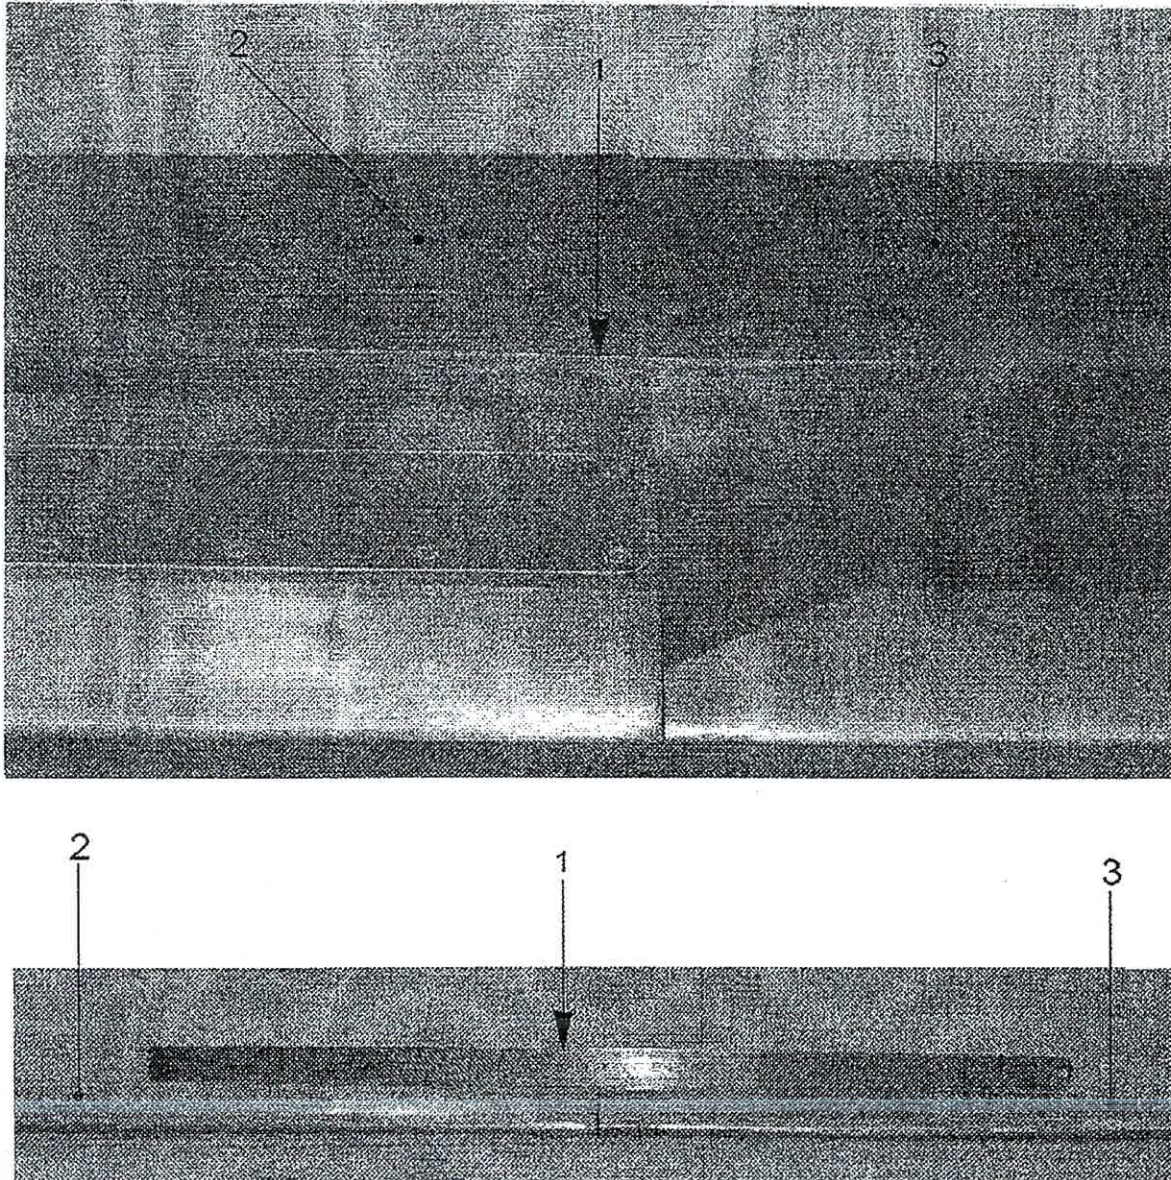
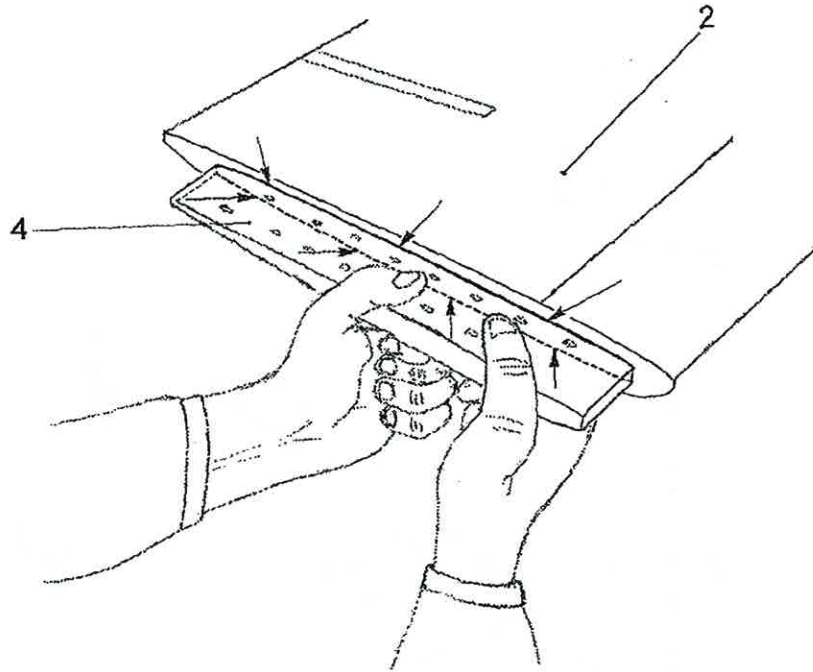

Figure 4
Figure 5
- On the blade pressure face, then on the blade suction face, closely inspect the embedded portion of tenon (4), shown on Figure 5, (use a magnifying glass if necessary):
- a) if there is no crack in tenon (4),
3. on the blade suction face portion (2), position an approximately 500mm ruler overlapping the blade (2) and the blade tip cap (3), as shown on Figure 4, in such a way that the middle of the ruler (1) is positioned at the blade/tip cap junction. The ruler (1) must be parallel to the leading edge and located between the two hatches that include the balancing weights,
4. mark the position of the ruler (1) with "paint or ink" to be able to position it later in the same place,
5. at the blade/tip cap junction, measure clearance "Do", if any, between the ruler (1) and the blade/tip cap junction,
- b) if a crack is found in the tenon (4), remove the blade from service and contact the Customer Service Blades Support Department in La Courneuve at: